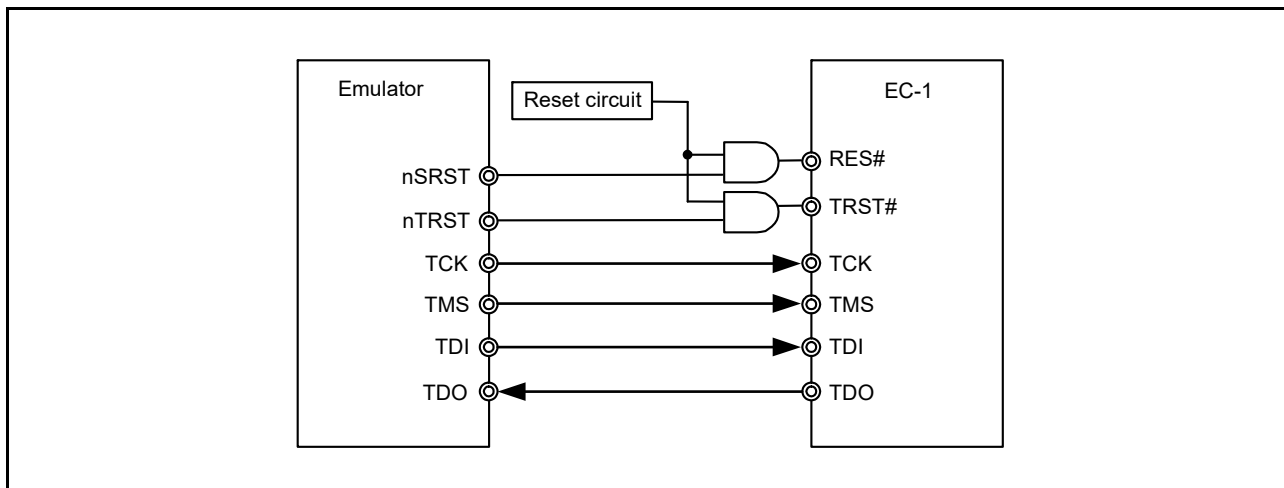

Figure 10.2 Example Connection of the JTAG Interface
The JTAG interface uses five signals (TCK, TMS, TDO, TDI, and TRST#) to communicate with the host machine (PC) via the emulator. Figure 10.2 shows an example connection, which includes the RES# pin connection.